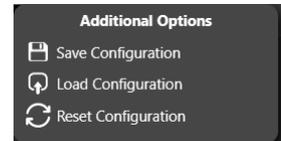

Figure 16: Additional Options
- Additional Options let you save, load, or reset test configurations including bit rate, pattern, signal modulation, number of taps and their values, inversion, etc., for all channels (Figure 16).